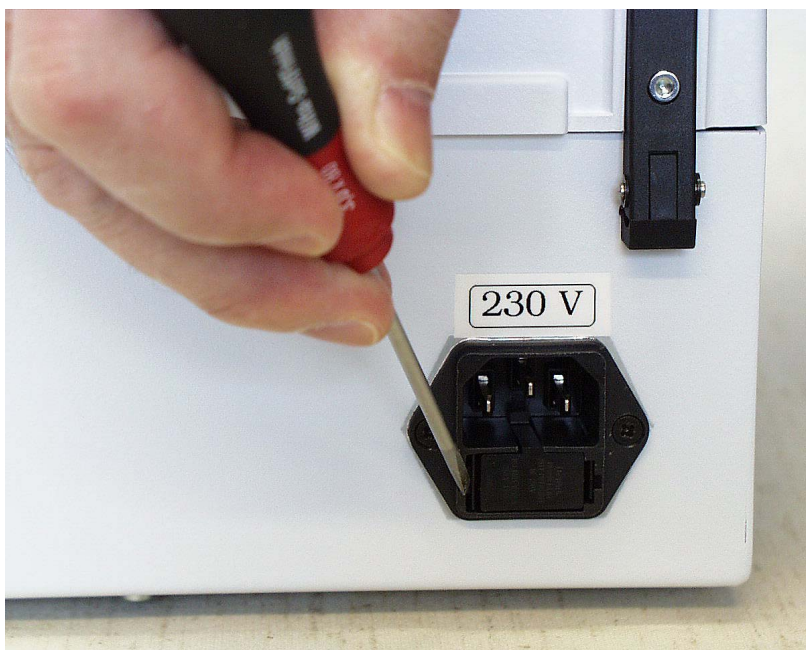
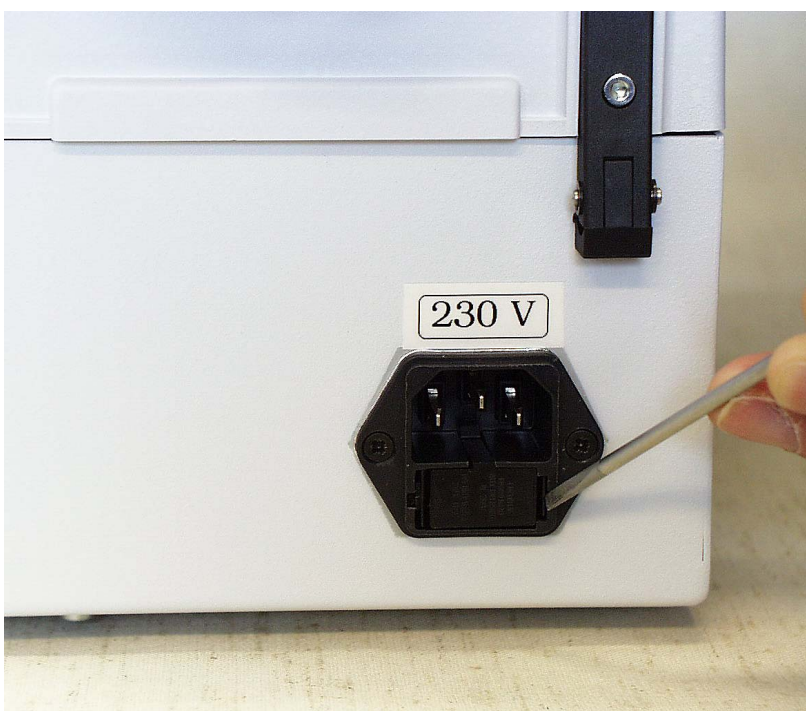

Fig. 7.1 Removing the fuse holder cap (A)
Fig. 7.2 Removing the fuse holder cap (B)
2. Remove the fuse holder cap with a screwdriver or similar tool. Press both ends of the fuse holder cap with the tool (Fig. 7.1 and Fig. 7.2).